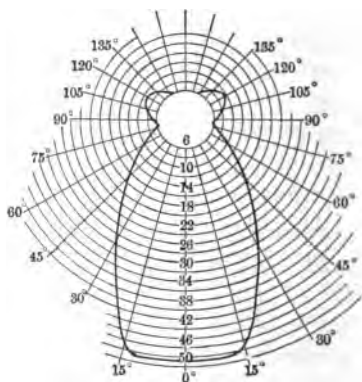

FIG. 384. — Vertical distribution, when fitted with shade.
When it is desirable to throw as much light as possible directly downward, some kind of a reflector or shade is used. Figure 384 shows the vertical distribution of light when the bulb is fitted with a special shade. From this curve it will be seen that the horizontal intensity is cut down to 6 candles, while the downward intensity runs over
8. If the lamp with the special shade described in section 415 were hung above a reading table, how high should it be hung? (See curve of distribution, Fig. 384.)